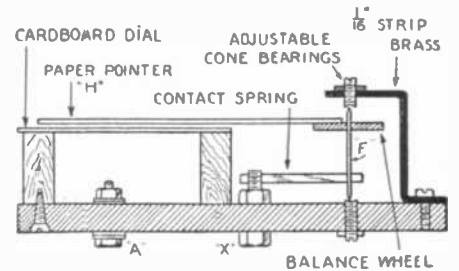

FIG. 4
And now for the spindle and pointer. The pointer may be made of anything light, a thin strip of paper shellacked for stiffness being about the best and easiest to make. As for the spindle, the balance wheel of an old table clock would be just the thing, but if this cannot be had, a piece of iron wire (about No. 18) one inch long should be carefully filed to a round point at both ends and mounted as shown in Fig. 4. The control spring (G) consists of a piece of steel wire out of an old motor cycle "Bowden" wire or a piece of main spring from a very small watch. This should be secured to the bolt "x" in Fig. 5 in the slot cut for the purpose.
The instrument is now ready, and all that remains to be done is to fix a cardboard scale atop the three wooden blocks (two of which are shown in Fig. 4), set your pointer at zero and calibrate by comparison with a